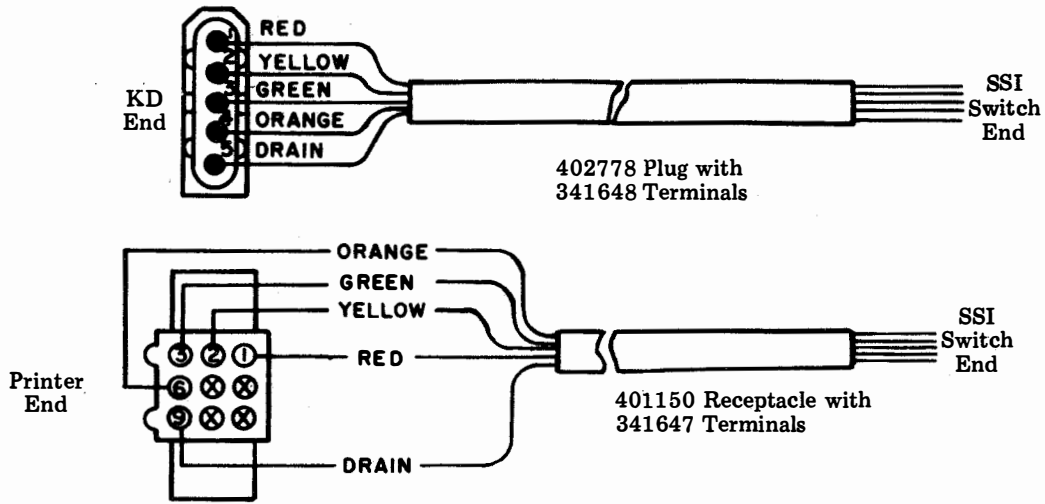

Fig. 5 - CABLE ASSEMBLY - (SSI SWITCH TO KD OR PRINTER CABLE ASSEMBLY)
6.03 The SSI cable required for installation is not provided with the switch assembly because the cable lengths depend on the application. Construction of cable assemblies is illustrated in Figures 5 and 6. A 452219 Connector Kit which contains parts for five KD to SCC cable assemblies or 452220 Connector Kit which contains parts for two printers to SCC cable assemblies must be ordered separately.